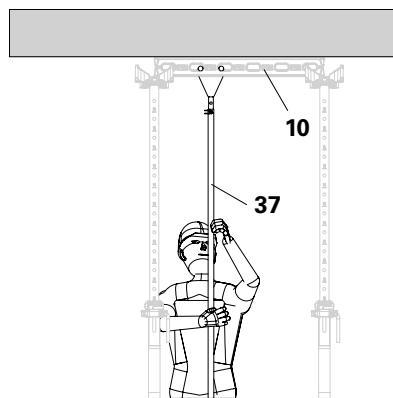

Fig. D1.04a
3. Pull the DP panel (**10**) down onto the prophead and prop it up again on the DUO shuttering aid (**37**). (Fig. D1.04a + D1.04b)